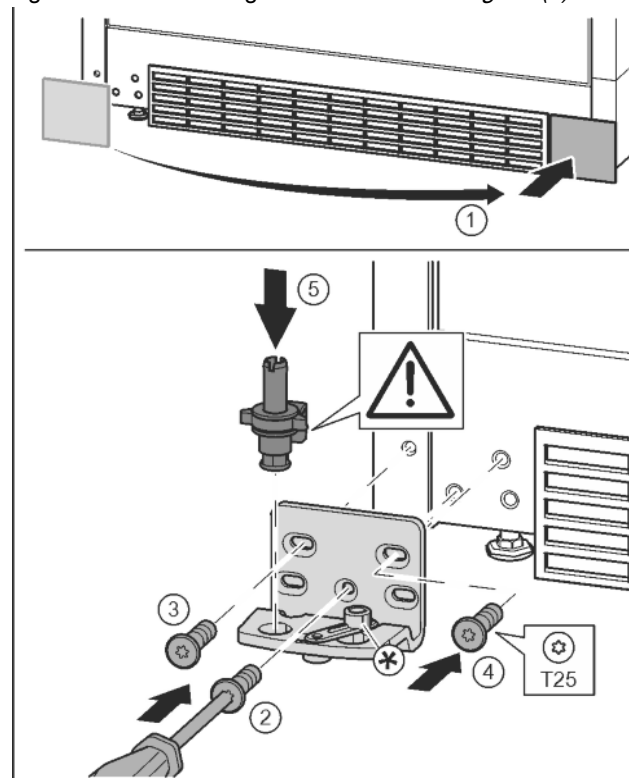

Fig. 18
- Remove the cover and fix it on the other side. Fig. 18 (1)
- Place the bearing bracket on the other side and screw in with the aid of a T25 screwdriver. Start with screw 2 at the bottom in the middle. Fig. 18 (2)
- Screw in screws 3 and 4. Fig. 18 (3, 4)
- Insert the bearing pin completely. Make sure that the catch mechanism is pointing to the rear. Fig. 18 (5)